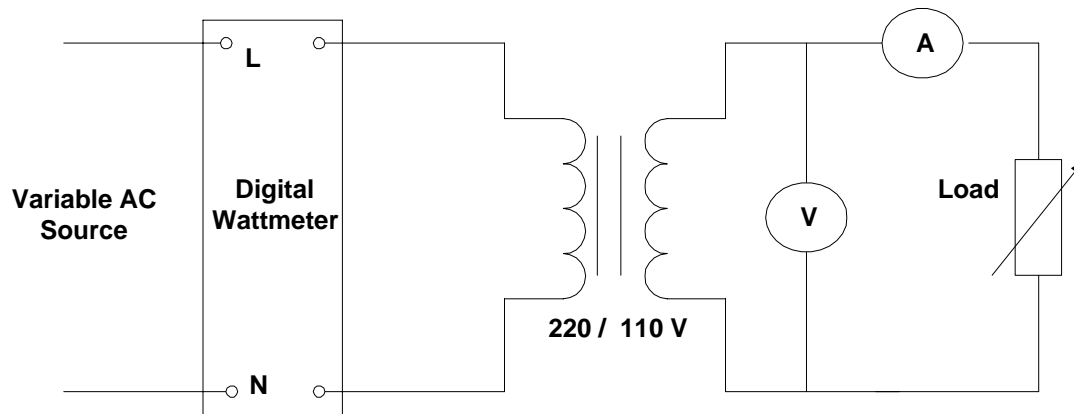

Fig. 4 : The Load Test connection
8. Connect the circuit as shown in Fig. 4 for a load test
3. For the unity power factor loading condition of Fig 4, calculate the primary current and voltage using the equivalent circuit you obtained. Start with the measured values of current and voltage on the load side.